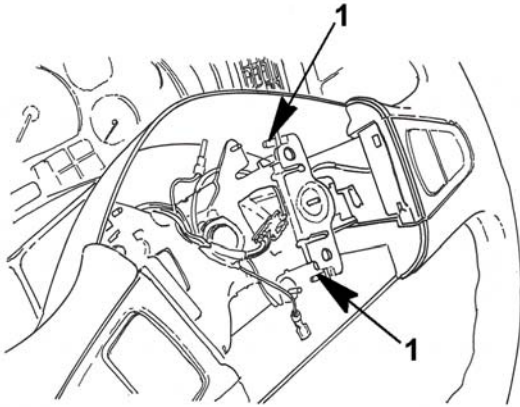

Figure 69 Locking Clip
2. Push inward to release steering wheel cover retaining clips (Figure 69, Item 1).